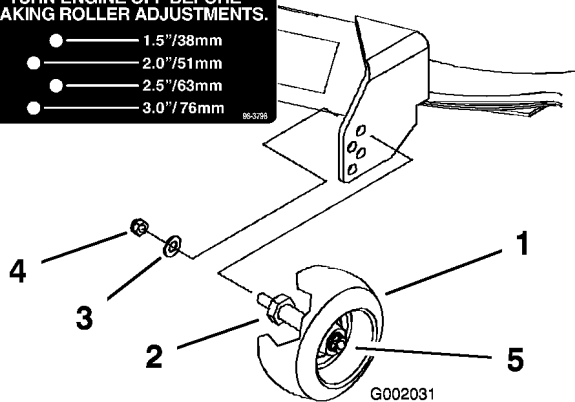

Figure 20
3. After adjusting the height-of-cut, remove the nut and washer while holding the stud with a wrench (Figure 20).
Note: Do not remove the wheel nut and washer (Figure 20).
4. Select a hole so that the outer roller is positioned to the nearest corresponding height-of-cut desired (Figure 20).
5. Install the stud nut and washer (Figure 20).